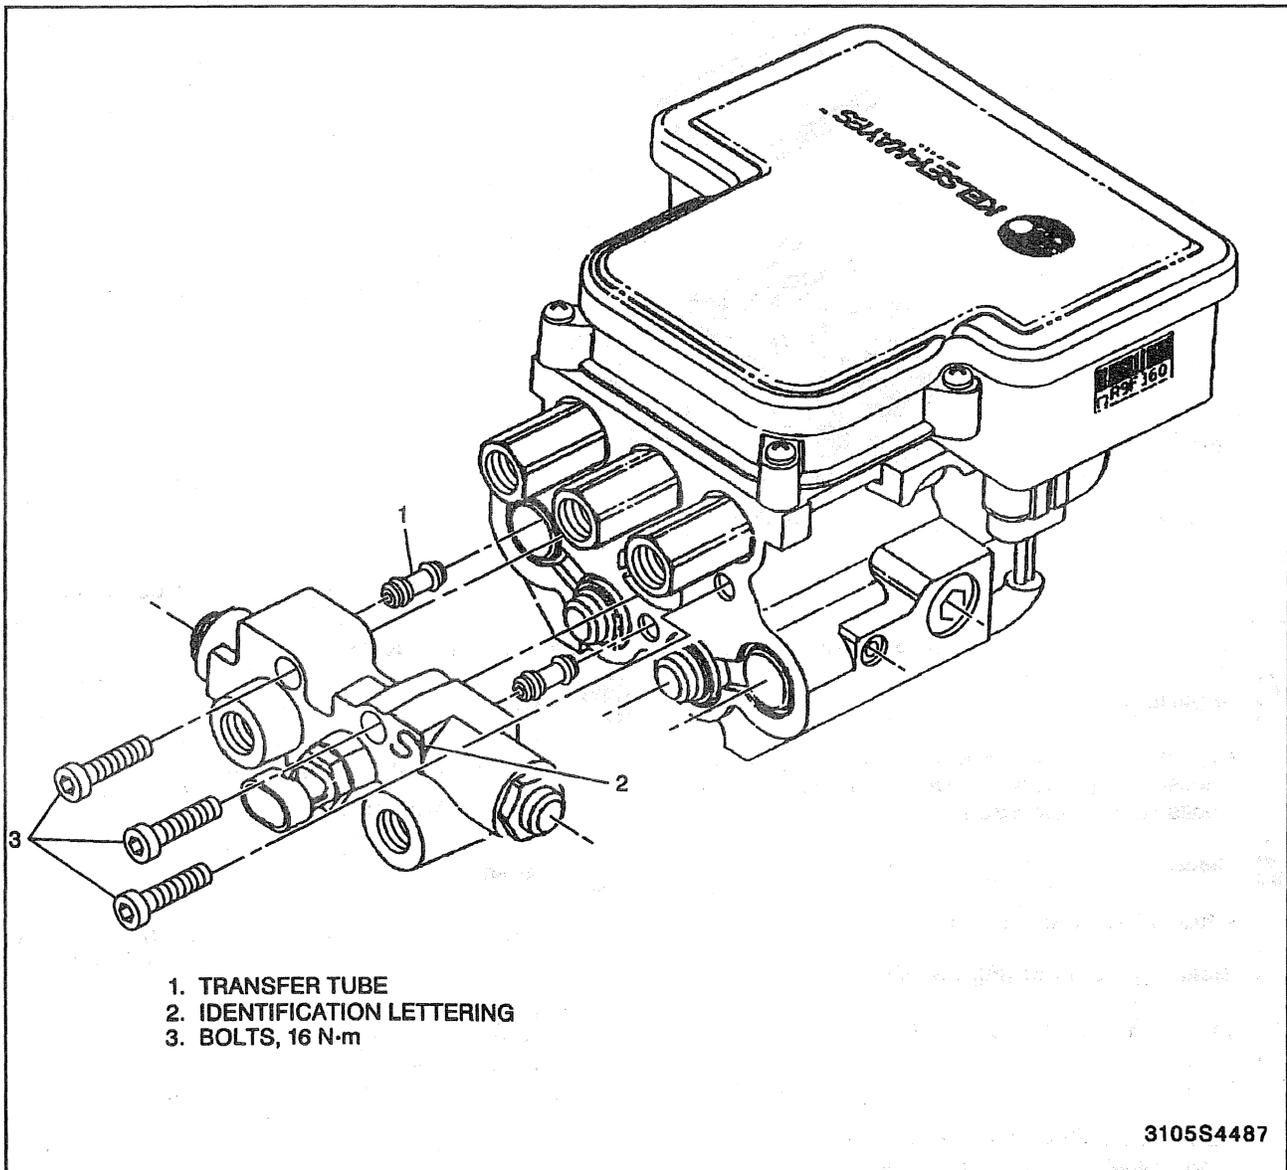

Figure 11—Combination Valve
- Prior to replacement of the combination valve, note the identification code on the valve (Figure 11). It is necessary to have the proper code when ordering a replacement valve.
Remove or Disconnect (Figure 11)
Install or Connect (Figure 11)